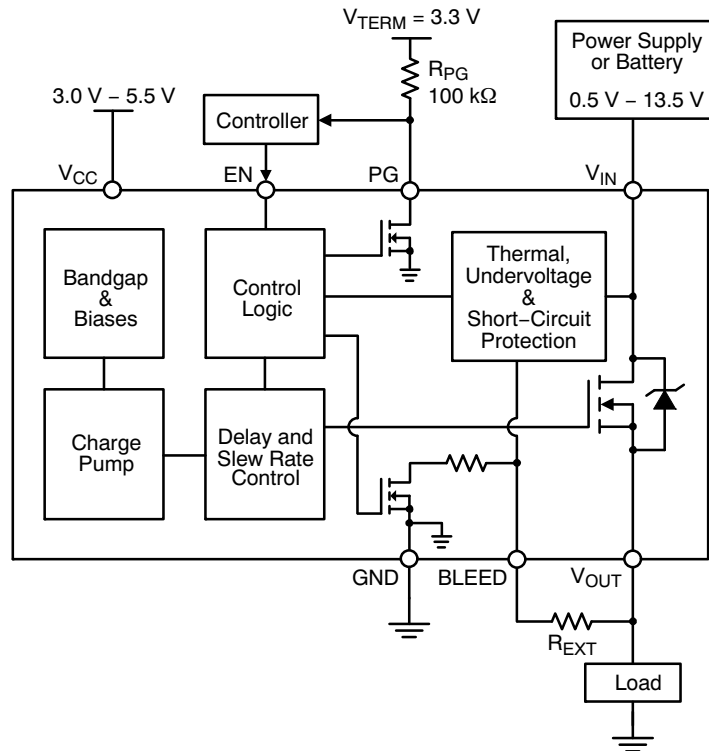
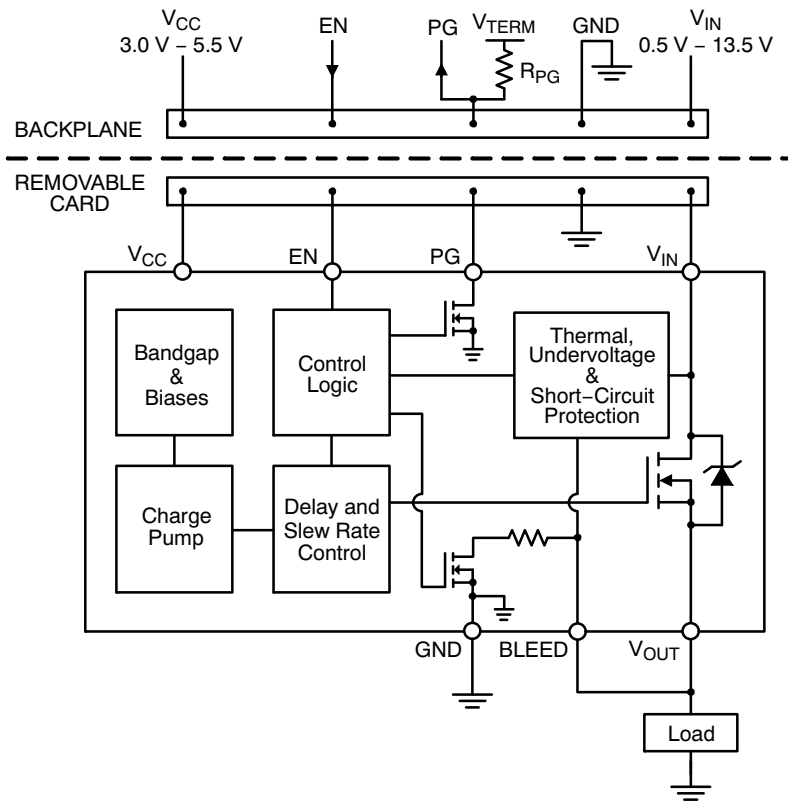

Figure 3. NCP45520 Typical Application Diagram - Load Switch
Figure 4. NCP45520 Typical Application Diagram - Hot Swap
It is required that the BLEED pin be connected to V_{OUT} either directly (as shown in Figures 4 and 7) or through an external resistor, R_{EXT} (as shown in Figures 3 and 6). R_{EXT} should not exceed 1 k Ω and can be used to increase the total bleed resistance.
The NCP45520 devices have a power good output (PG) that can be used to indicate when the gate of the MOSFET is fully charged. The PG pin is an active-high, open-drain output that requires an external pull up resistor, R_{PG} , greater than or equal to 1 k Ω to an external voltage source, V_{TERM} , that is compatible with input levels of all devices connected to this pin (as shown in Figures 3 and 4).
Once active, the circuitry monitors the difference in the voltage on the V_{IN} pin and the voltage on the BLEED pin. In order for the V_{OUT} voltage to be monitored through the BLEED pin, it is required that the BLEED pin be connected to V_{OUT} either directly (as shown in Figures 4 and 7) or through a resistor, R_{EXT} (as shown in Figures 3 and 6), which should not exceed 1 k Ω . With the BLEED pin connected to V_{OUT} , the short-circuit protection is able to monitor the voltage drop across the MOSFET.